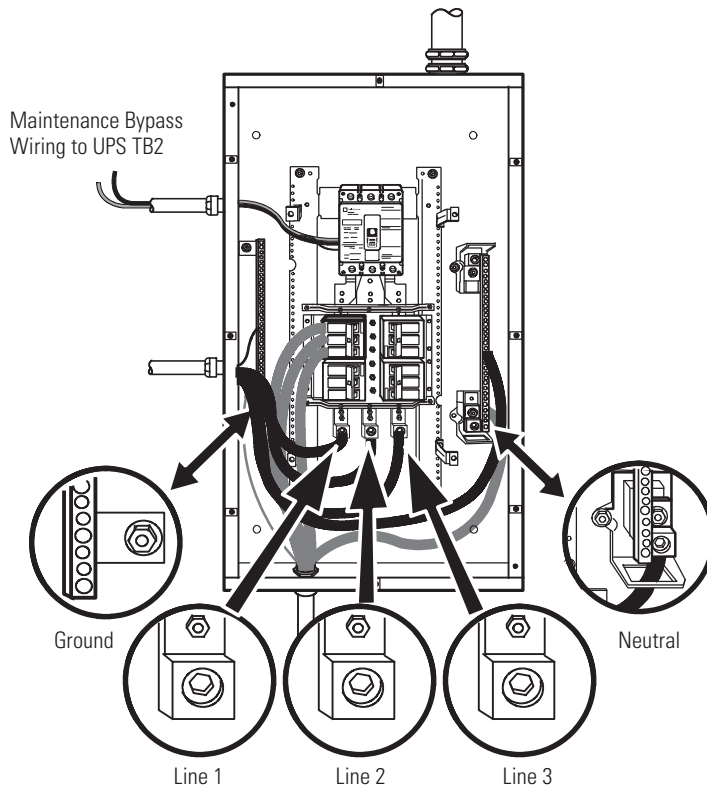

Figure 24. Version 1 Load Connections
15. Hardwire the load to the bypass cabinet (see Figure 24).